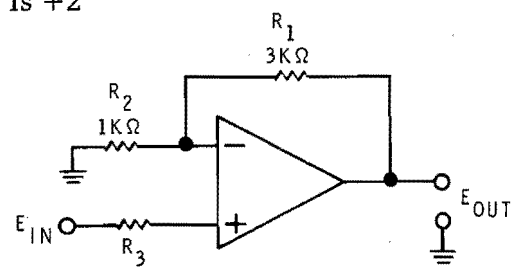

Figure 3-87
10. Refer to Figure 3-87. If the voltage at the noninverting input is +2 volts, the voltage at the inverting input will be: